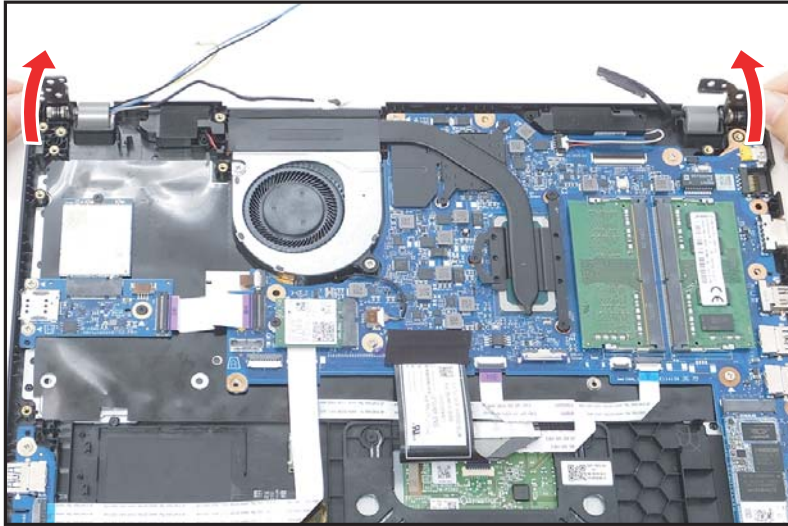

Figure 1-40. LCD Module Removal
12. Close the top assembly and lift both LCD hinges until they are fully extended (Figure 1-40).